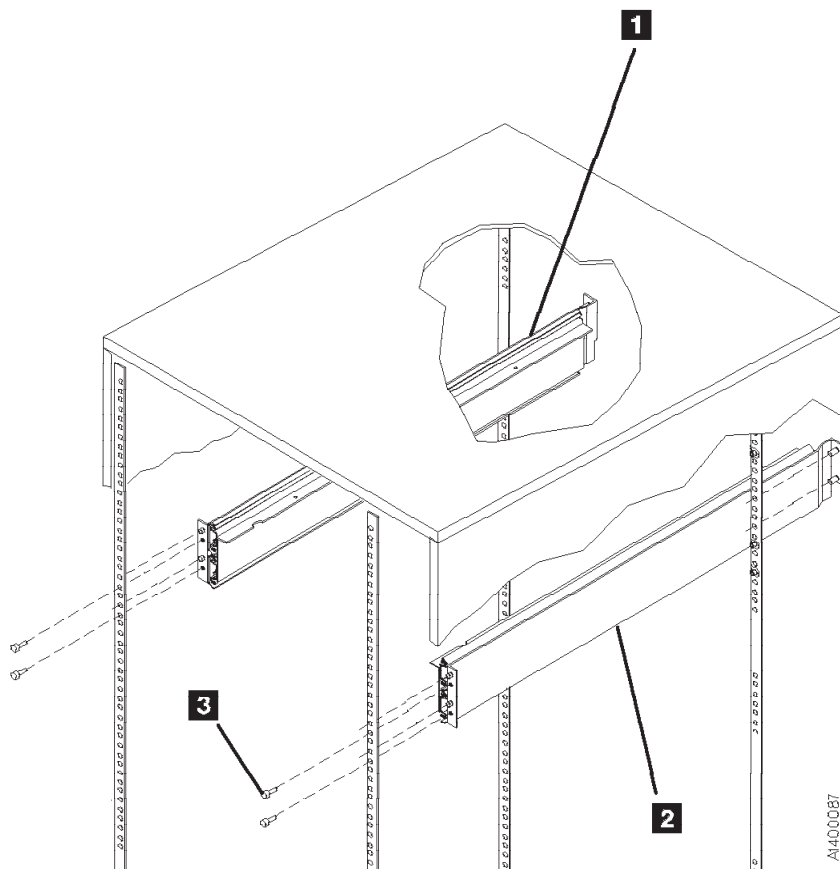

Figure 8-5. Slides (Front View)
1. Use Table 8-2 and Figure 8-5 to help you install the slides for drives 0 and 1. Install the right slide **2** and left slide **1** by using four screws **3** P/N 1624778. Install the slides so that the rail that holds the tray is up.